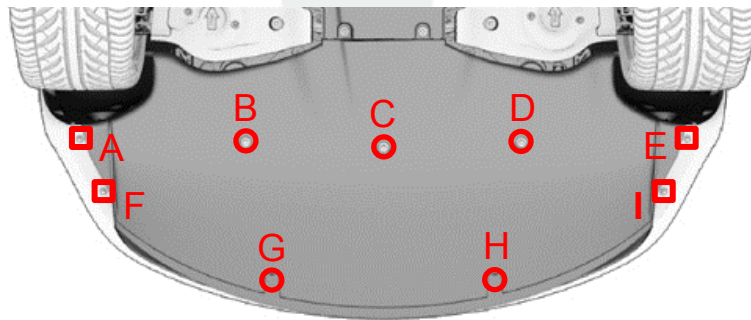

Figure 4 (○ 1083017-00-A (torque 4 Nm), □ 1006529-00-A (torque 3 Nm))
10. At the rear of the vehicle, inspect the diffuser, and comment in the Cause Narrative field of the Repair Order if the diffuser is missing, the damage to the diffuser (if any), and which bolts (if any) are missing (Figure 4).
11. If the diffuser is present, torque all present bolts to the correct specification (Figure 4), and then comment in the Cause Narrative field of the Repair Order which bolts were under torqued.
12. If the diffuser is undamaged, hand install all missing bolts, and then torque those bolts to the correct specification (Figure 4).